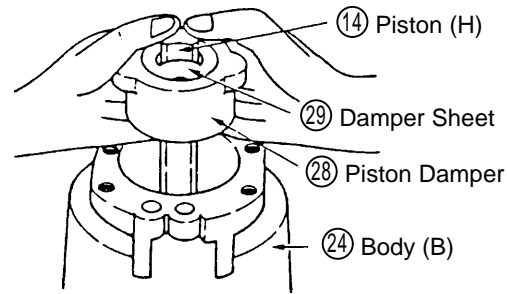

Fig. 10
- When disassembly as described above is completed, Packing (A) (30), the Damper Sheet (29), Piston Damper (28), Damper Ring (27), and Cylinder Damper (26) can be taken out in sequence from the lower portion of Body (B) (24). As illustrated in Fig. 10, when extracting the Damper Sheet (29) from Piston (H) (14) from Body (B) (24), (do not take out completely) and push the top end of Piston (H) (14) with your thumbs. At this time, pay particular attention not to damage the holes of the Damper Sheet (29).